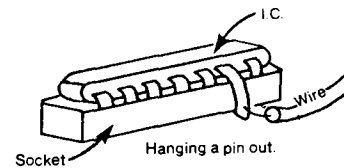
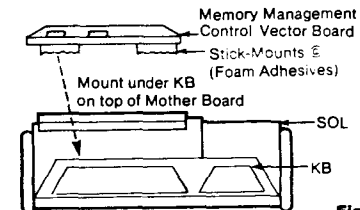

Figure 1.
Figure 2.
The required circuit changes can be made without cutting any printed circuit board traces. The technique of hanging the IC pin to be changed outside of the socket and soldering a wire to it can save much wear and tear on the circuit board (Figure 1). The two chip memory management control circuit can be assembled on a small vector board and mounted inside the Sol under the keyboard as shown in Figure 2.
•Step 6. In step 8 the connection of the memory management circuit board is installed. Mount the memory management board and connect the circuit to VCC (+5 Vdc) and ground. This power comes from the Sol mother board. Connect to the following signals to the Sol. See figure 2 and drawing 2.